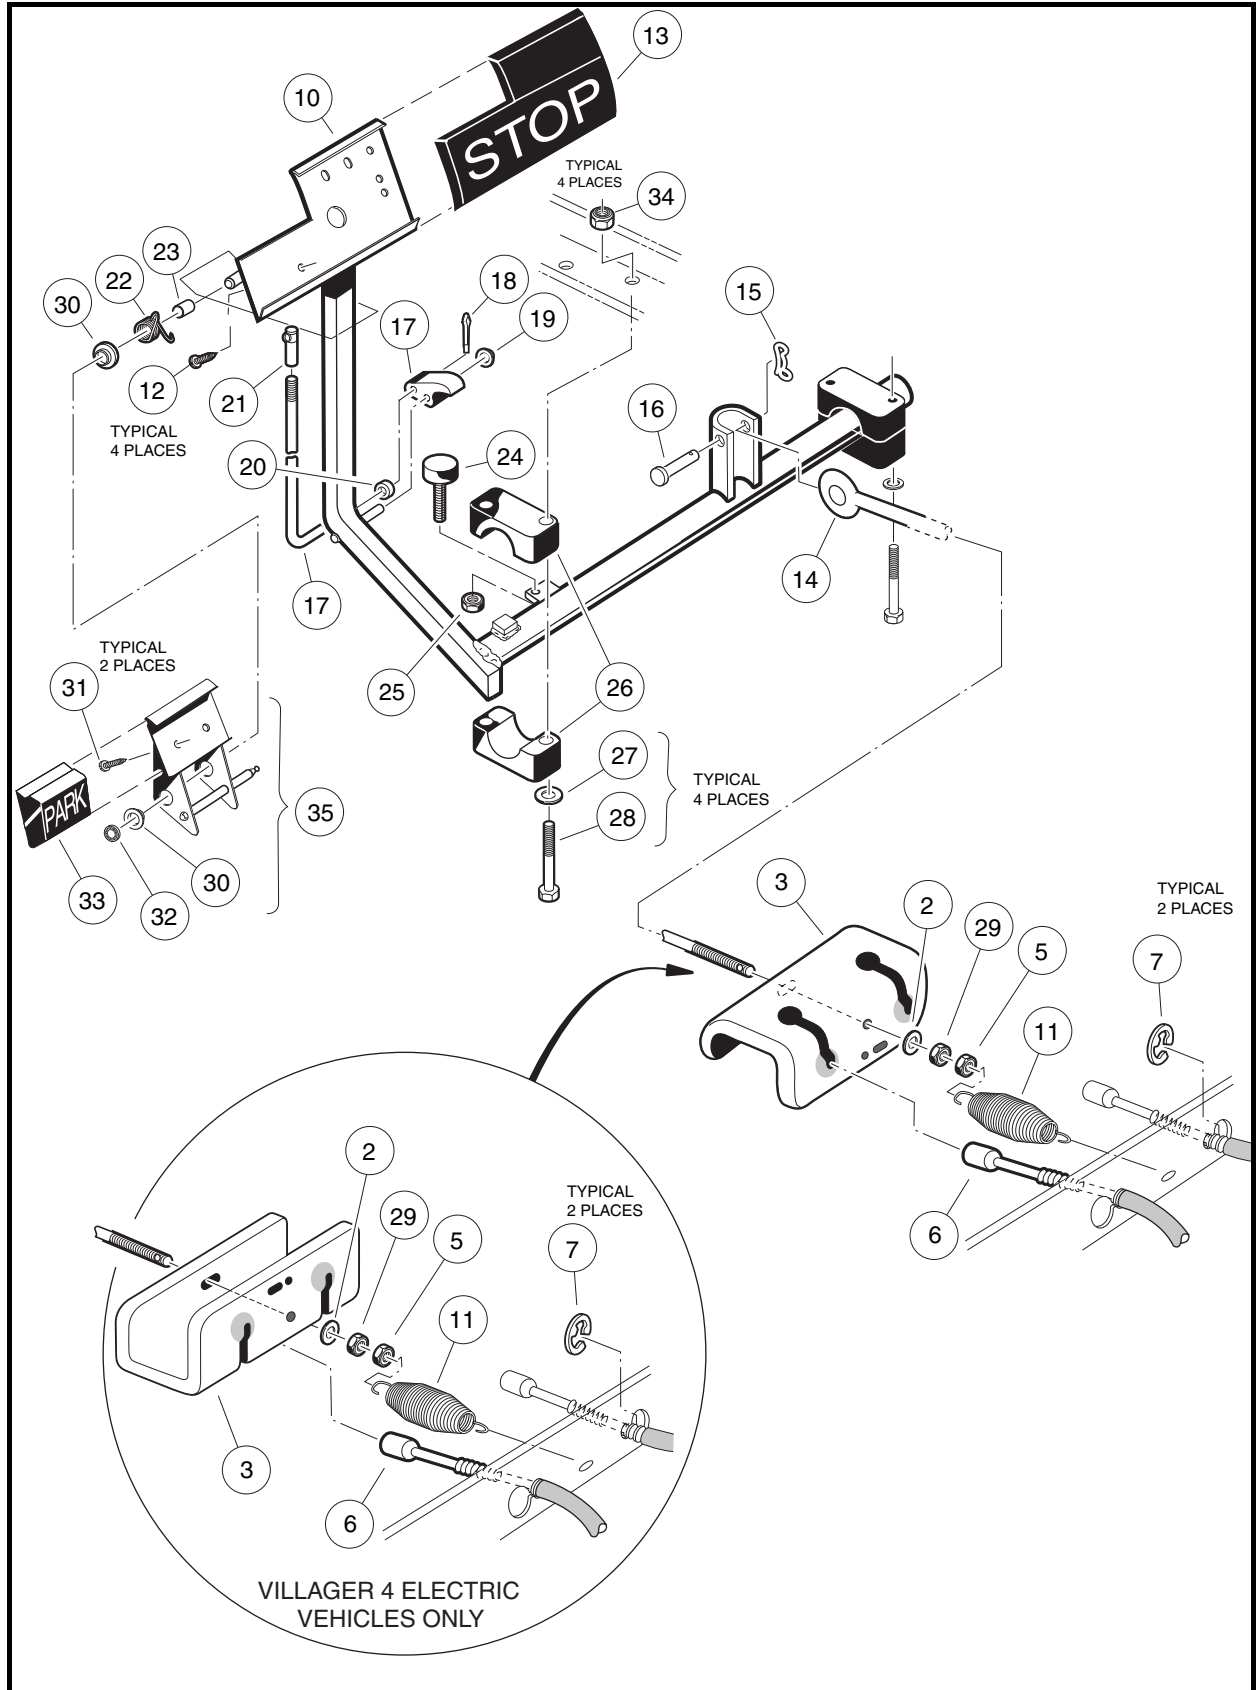
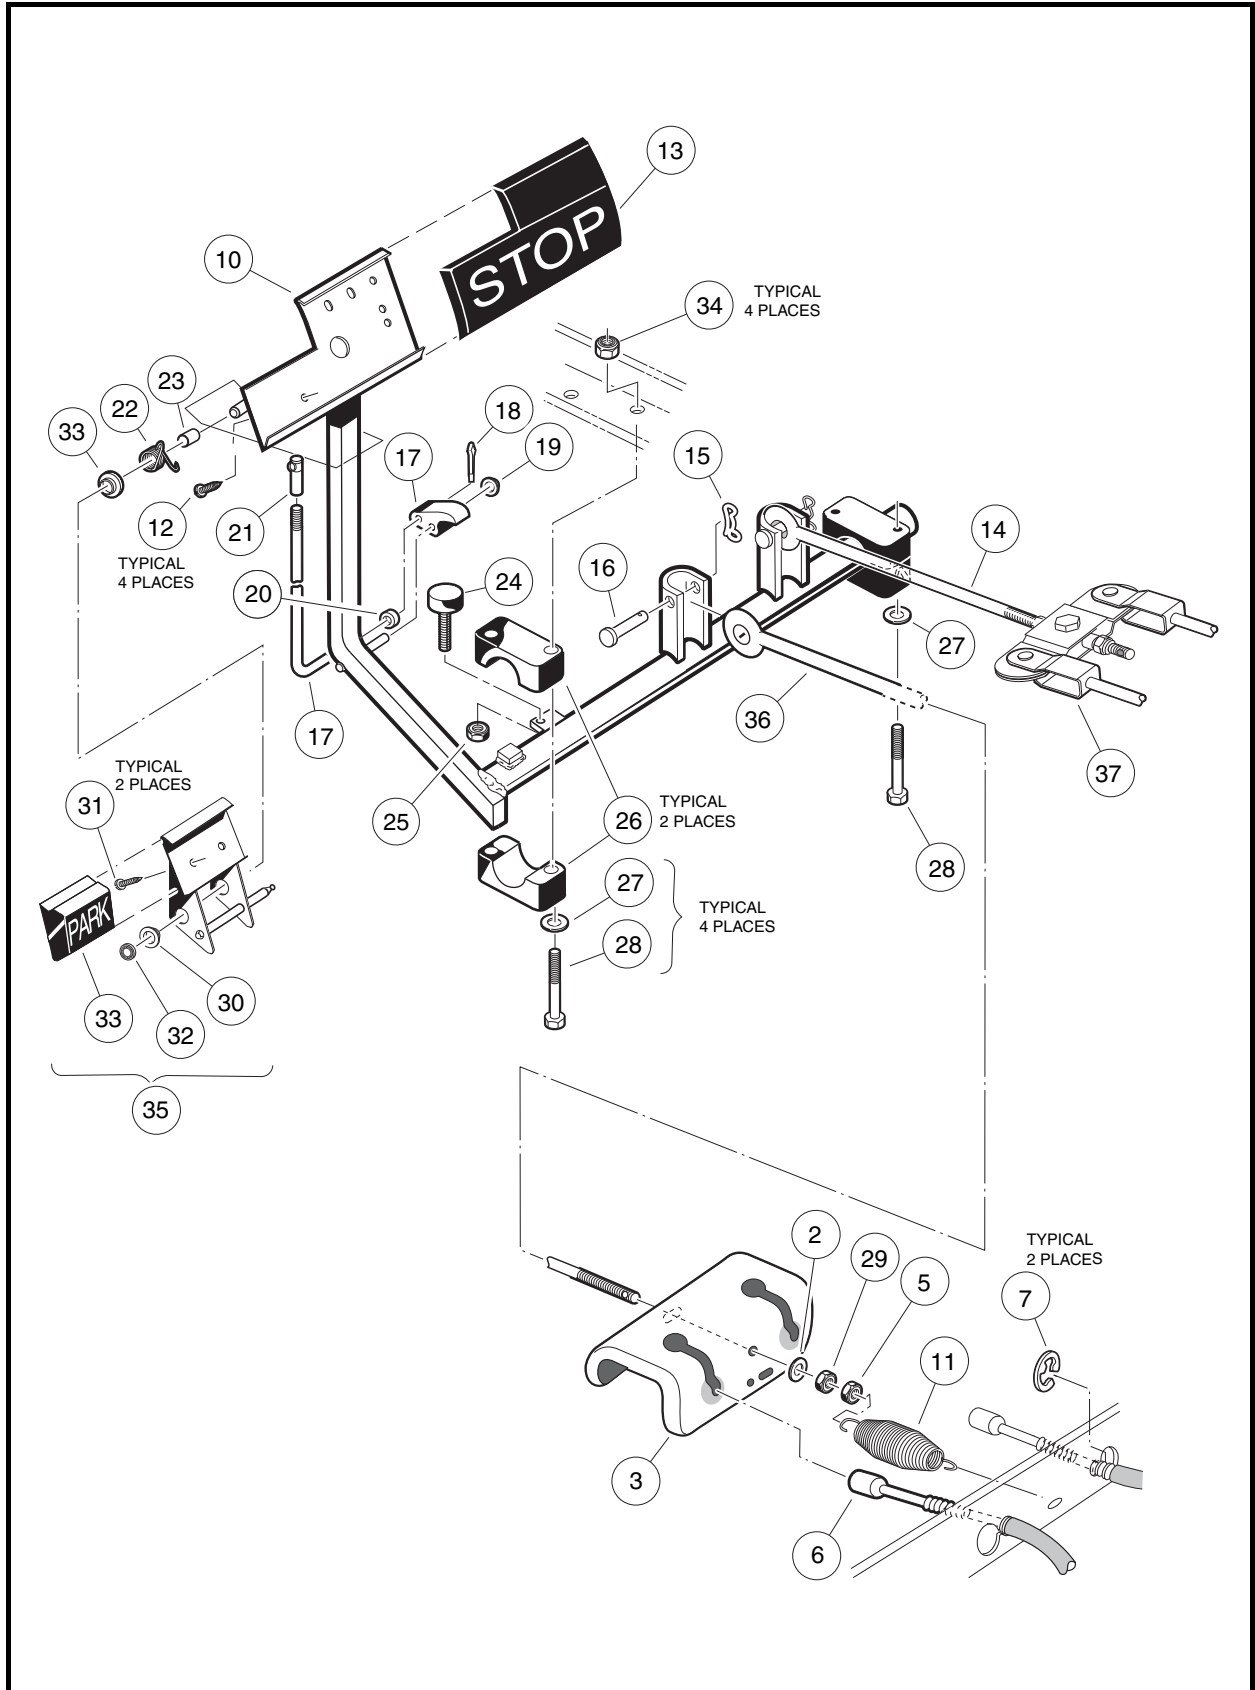
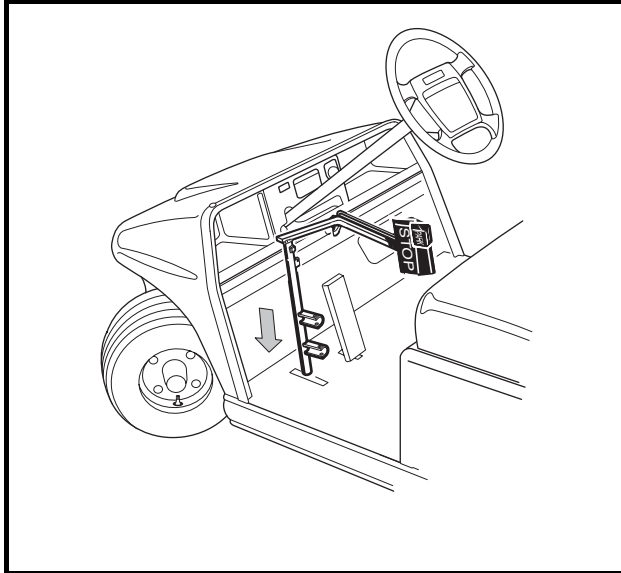

Figure 5-1 Brake and Park Brake Pedal Assembly and Mounting – Two-Wheel Brake Vehicles
Figure 5-2 Brake and Park Brake Pedal Assembly and Mounting – Four-Wheel Brake Vehicles
Figure 5-3 Brake Pedal Weldment Through Floor
- 3.1. Disconnect the equalizer rod(s) (14 and 36) from the pedal shaft by removing the clevis pin(s) (16) and bow-tie pin(s) (15) **(Figure 5-1, Page 5-2 or Figure 5-2, Page 5-3).**
- 3.2. Remove the nuts (34), flat washers (27), bolts (28), and mounting blocks (26). If the mounting blocks (26) show signs of excessive wear or are damaged, they must be replaced with new ones before installing pedal assembly **(Figure 5-1, Page 5-2 or Figure 5-2, Page 5-3).**
- 3.3. Remove the nut (25) and brake stop bumper (24) (**Figure 5-1, Page 5-2 or Figure 5-2, Page 5-3**).
- 3.4. Lift the pedal assembly (10) through the floorboard (**Figure 5-3, Page 5-4**).
1. From the top side of the floorboard, insert the brake pedal assembly (10) (**Figure 5-1, Page 5-2 or Figure 5-2, Page 5-3**) through the opening in the floor as shown (**Figure 5-3, Page 5-4**) and install the brake pedal stop bumper (24) (**Figure 5-1, Page 5-2 or Figure 5-2, Page 5-3**) on the brake pedal assembly, but do not tighten the jam nut (25) at this time.
2. Secure the equalizer rod(s) (14 and 36) to the brake pedal assembly (10) with clevis pin(s) (16) and bowtie pin(s) (15) as shown (**Figure 5-1, Page 5-2 or Figure 5-2, Page 5-3**). See following NOTE.
3. Position and attach brake pedal assembly, mounting blocks (26), and washers (27) to vehicle frame as shown. Tighten the bolts and nuts to 113 in-lb (12.8 N·m) (**Figure 5-1, Page 5-2 or Figure 5-2, Page 5-3**).
- 3.1. To remove the park brake rod and pawl assembly (17 through 20), remove the push nut (19) and disconnect the ball joint sleeve (21) from the park brake pedal (35) (**Figure 5-1, Page 5-2 and Figure 5-2, Page 5-3**). **See following NOTE.**